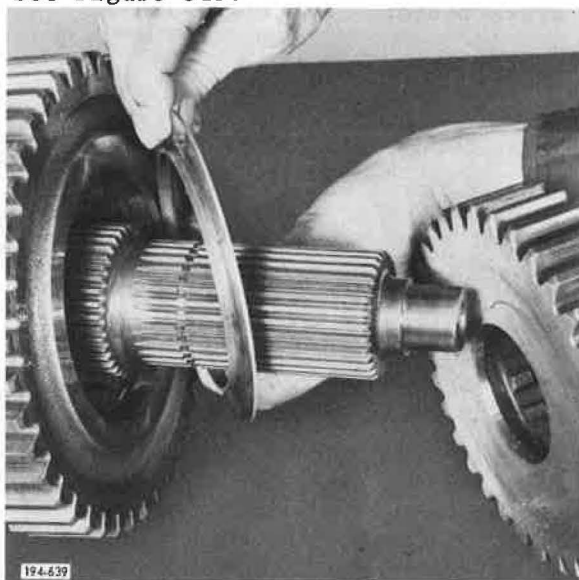

Figure 349. Installing Thrust Washer and Gear
8. Install third speed gear flanged thrust washer, and fourth speed gear. See Figure 349.